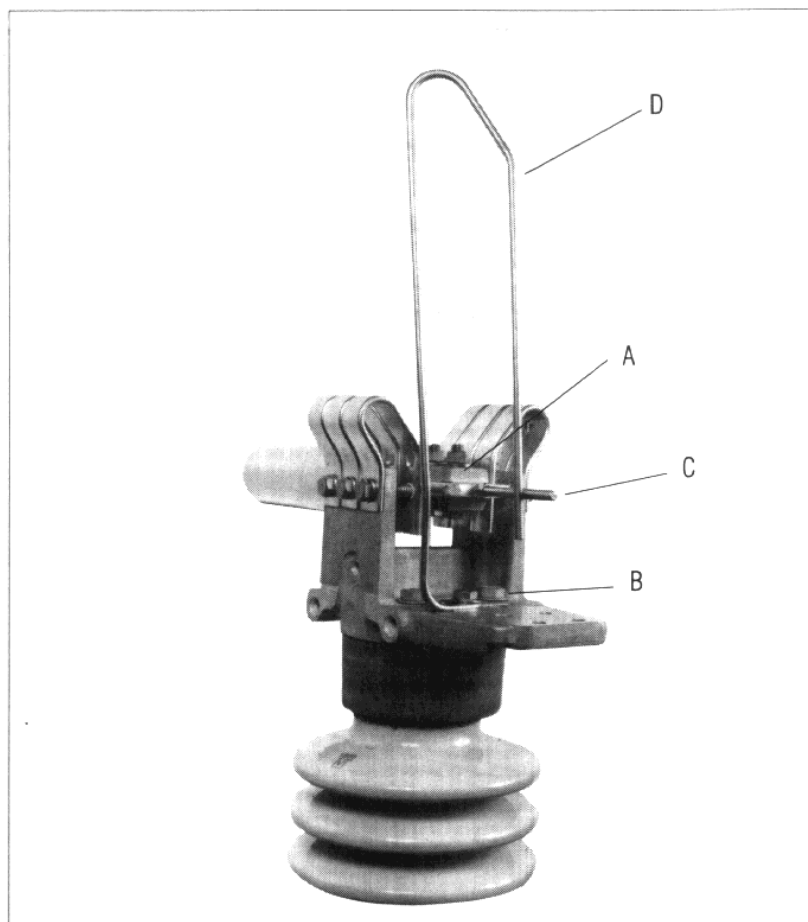

Fig. 10 Arcing Horns 8.25 kV thru 169 kV
When arcing horns are used on switches, they should be installed and adjusted after mounting the switches on the structure. Arcing horns are furnished only when horn gap switches are ordered. Fig. 10 shows arcing horns used on switches 8.25 thru 169 kV. The movable straight horn (C) is assembled by screwing it into the blade
Arcing horns for 242 kV switches are essentially the same as Fig. 10 with the stationary horn contacting the movable horn at the surface between the end of the blade and small corona ball which is affixed at the end of the movable horn.